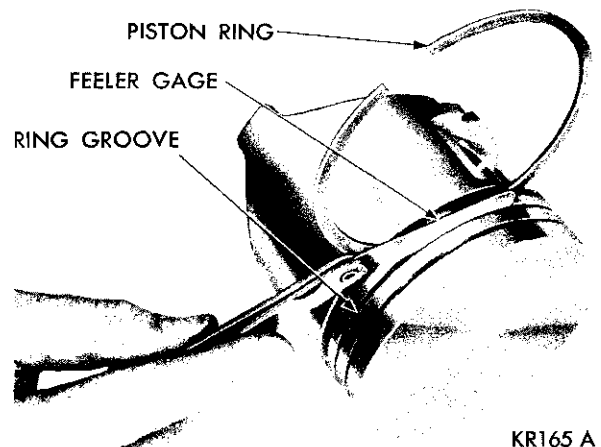

Fig. 37—Measuring Piston Ring Clearance
(1) Measure the piston ring gap about two (2) inches from bottom of cylinder bore in which it is to be fitted. (An inverted piston can be used to push the rings down to insure positioning rings squarely in the cylinder wall before measuring.)
(2) Insert the feeler stock in the gap. The ring gap should be between .013 to .052 inch for the compression rings and .015 to .062 inch for the oil ring steel rails in standard size bores. Maximum gap on .005 inch O/S bores should be .060 inch for compression rings and .070 inch for the oil ring steel rails.
(3) Measure the side clearance between the piston ring and the ring groove (Fig. 37). The clearance should be .0015 to .003 inches for the top compression ring and the intermediate ring, and .001 to .009 inch for the oil control ring, for new service rings.
(4) Install the three piece oil ring in the lower ring groove using the instructions in the ring package.
(5) Install the tin coated ring in the middle groove and the chrome compression ring in the top groove, so that the side marked "TOP" is up.